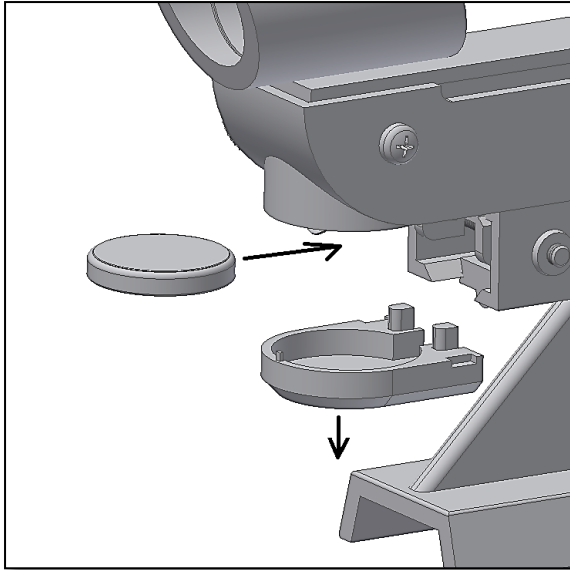

Figure 9. Remove battery.
**4. Replacing the battery.** The red-dot needs to be bright enough to be seen during the observation. After some hours of use the brightness may dim until it no longer can be seen. The battery needs to be replaced. Turn the potentiometer OFF. Now remove the battery cap and the battery from the battery compartment and replace with a new battery (figure 9 and 10). Make sure the battery clip has solid contact with the battery base. Place the plastic battery cap back to protect the battery. Turn the potentiometer ON and check if the red-dot is brighter now. When not in use the finderscope should always be powered OFF to prolong the battery's life.